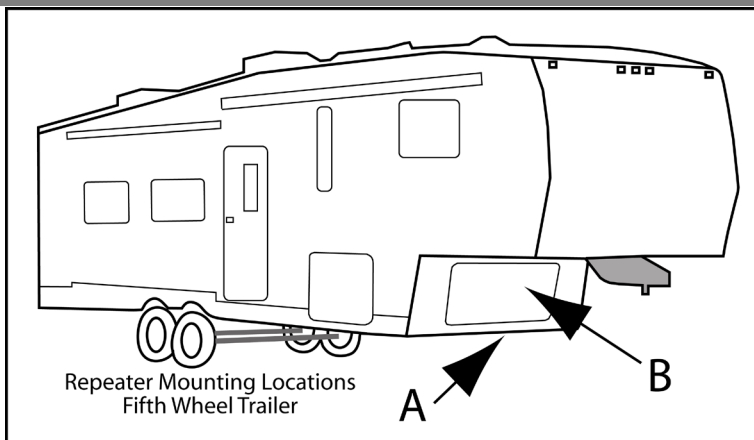

Figure 5.2.2 Repeater Mounting Locations Fifth Wheel Trailer
- 5.2.2 For 5th Wheels and gooseneck trailers** select a location for the repeater near the house battery but NOT inside a metal enclosure. See **Figure 5.2.2** locations “A” and “B” for recommend repeater mounting locations. Location “A” is on an exposed frame member on the underside of the trailer and location “B” is inside the storage compartment of your fifth wheel or gooseneck trailer.